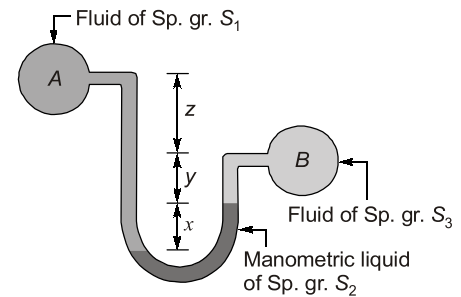

Figure 2.13 U-tube Differential Manometer
- In case, the points *A* and *B* between which the pressure difference is to be measured are not at same level (Figure 2.13) and the fluids in *A* and *B* are also of different specific gravity then, the general gauge equation can be written as